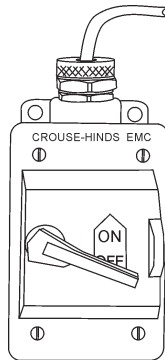

Figure 10. Power ON/OFF Switch (OFF)
CONNECTING THE POWER (FIGURE 10)
1. Place the power **ON/OFF** switch (Figure 10) in the **OFF** position (down).